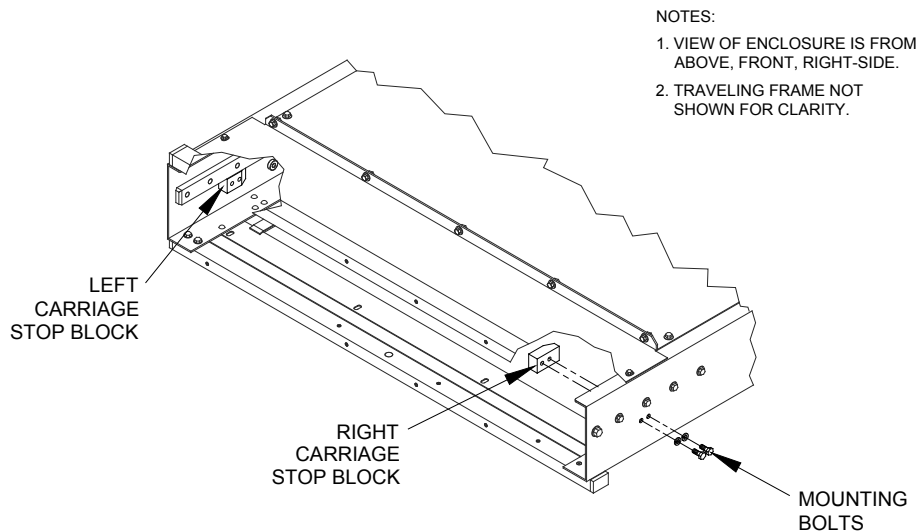

FIGURE 4-35: CARRIAGE STOP BLOCK LOCATIONS
- e. Refer to **Figure 4-35**. The carriage stop block mounting bolts are accessible from under vehicle or from the front of enclosure. Remove bolts and both stop blocks.